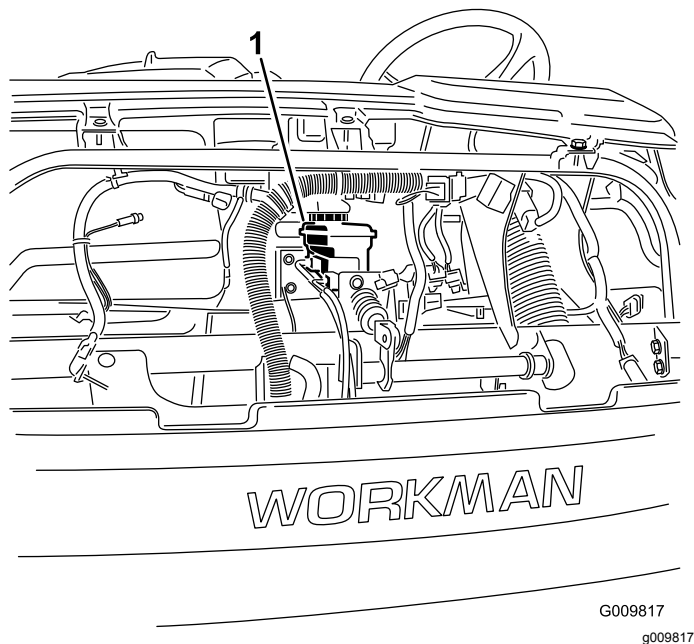
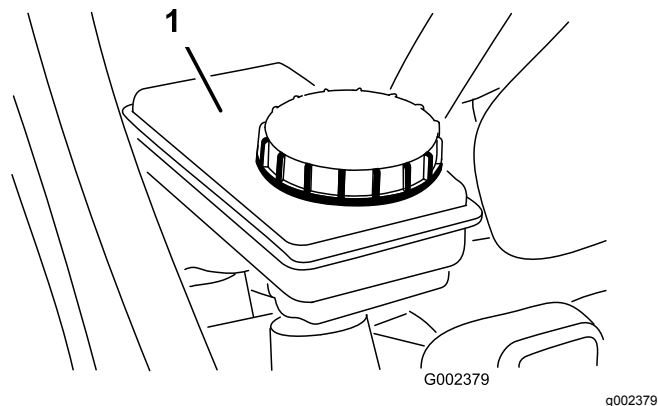

Figure 72
Figure 73
5. Check the fluid level in the brake-fluid reservoir (Figure 72 and Figure 73).
- A. Clean the area around the cap for the reservoir (Figure 73).
- B. Remove the reservoir cap (Figure 73).
- C. Add the specified brake fluid to the Full line on the reservoir (Figure 73).
- D. Install the cap (Figure 73).